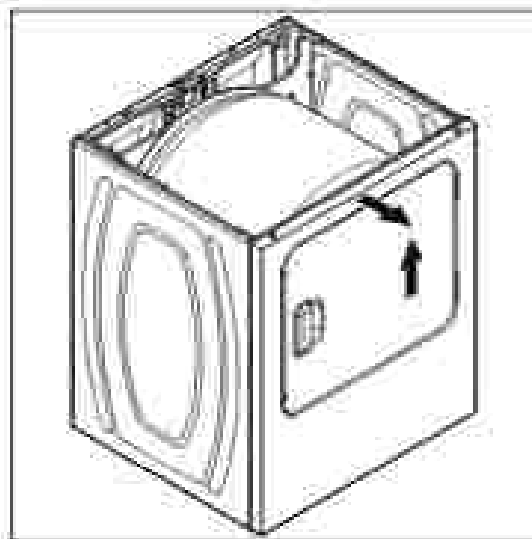

Figure 4
3. Pull the front panel forward slightly. Lift and pull/poke it from the two bottom hinges and remove it from. See Figure 4 and 5.